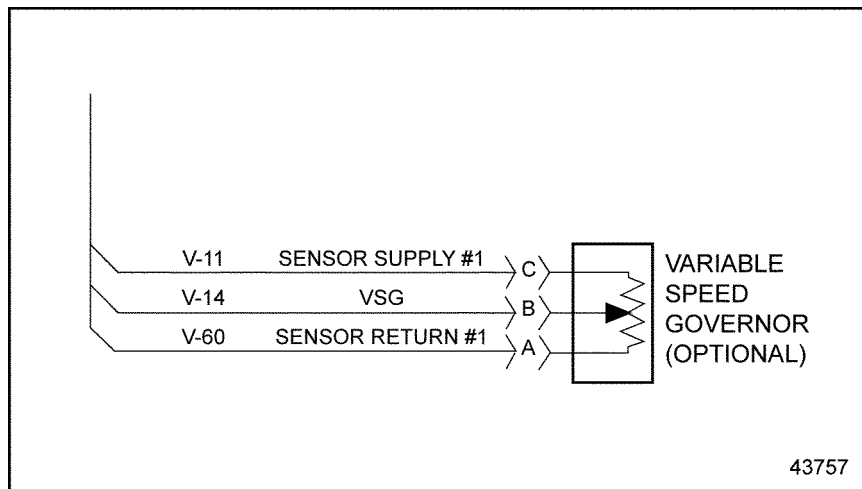

Figure 21-3 Variable Speed Governor Circuit
3. Measure resistance between V-11 and V-14. See Figure 21-3.